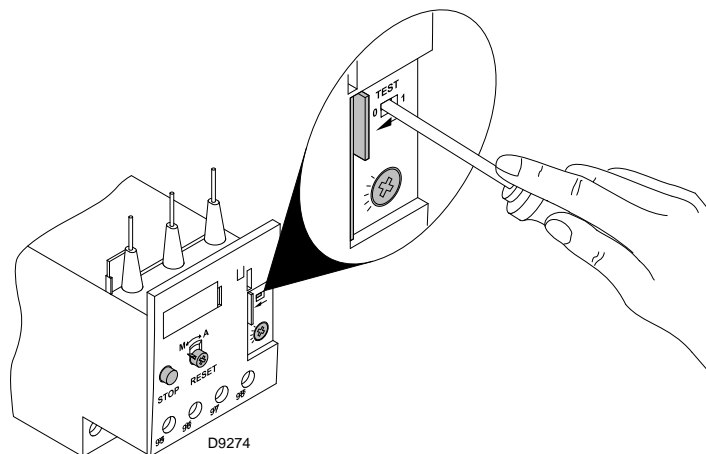

Fig. 37
- To test the thermal relay, insert a screwdriver in the window "TEST" (Fig. 37) and move it in the sense of the arrow (towards right).